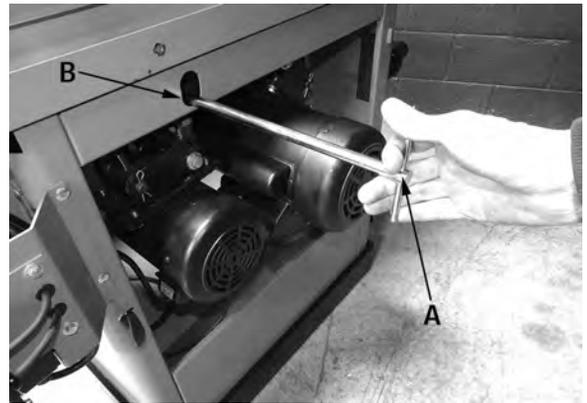

FIGURE 57
4. To align the scoring blade with the main blade, insert the scoring blade alignment tool (A) Fig.57 into the opening (B) on the right side of the cabinet.